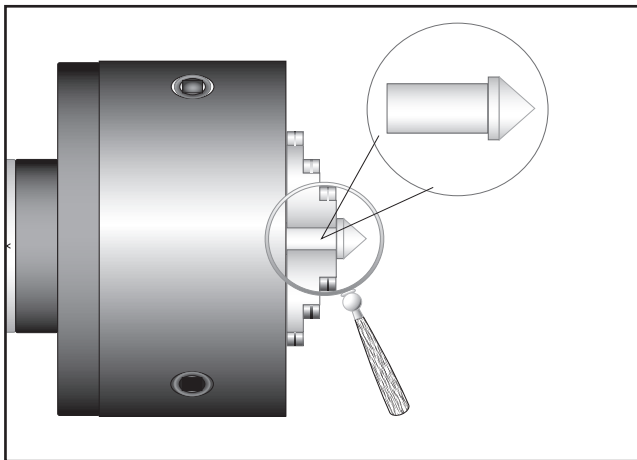

Figure 39. Chuck centering the dead center.
4. Using the other piece of stock, make a dead center by turning a shoulder to make a shank. Flip the piece over in the chuck and turn a 60° point (**Figure 39**).